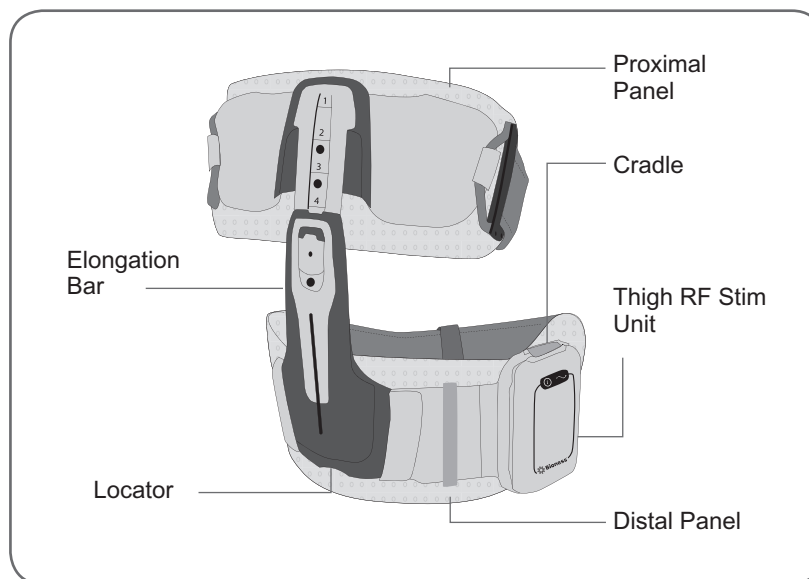

Figure 4-15: Thigh FS Cuff.
- A proximal and distal panel. See Figure 4-15.